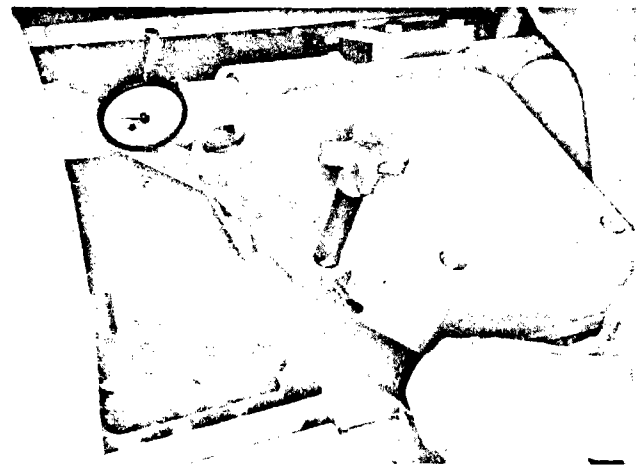

Fig. 2-63. (K21921). Bottoming injector plunger in cup
3. Using the rocker lever actuator, Fig. 2-63, depress the lever toward the injector until the plunger is bottomed in the cup to squeeze the oil film from the cup. Allow the injector plunger to rise, bottom again, hold in the bottom position and set the indicator at zero (0). Check the extension contact with the plunger top.